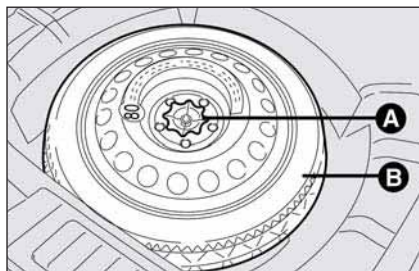

fig. 12
- Place the space-saver spare wheel **B-fig. 12** in the space provided for the purpose inside the boot and secure it with the clamping device **A-fig. 12**.